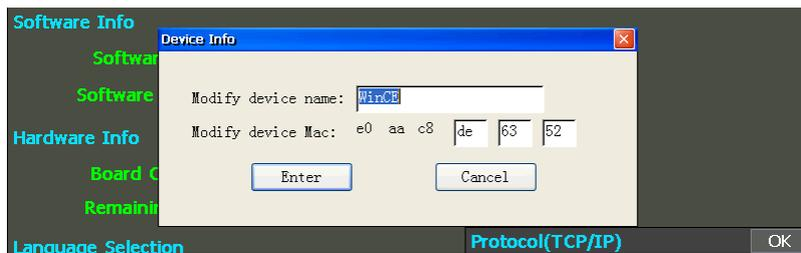

Fig. 3-67 Device info modification interface
- 4) Enter the password to access the device info modification interface, as shown in Fig. 3-67.